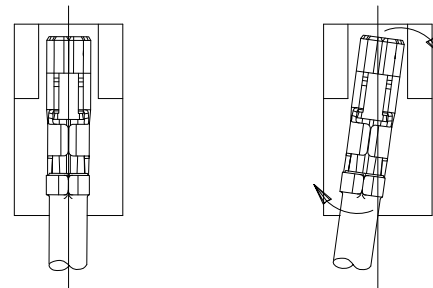

Figure 2
- a. Grasp the contact directly behind the insulation barrel, and align the contact with contact cavity from the wire end of the receptacle housing so that the locking lance is aligned with the locking ramp. See Figure 2, Detail A. Make sure that the contact is perpendicular (not at an angle) to the contact cavity. See Figure 2, Detail B.
- b. Push the contact straight, and not rotated, into the contact cavity. If it is rotated, damage to the contact will occur or the contact will not latch properly onto the locking ramp. See Figure 2, Detail B. Do not force the contact into the receptacle housing.
c. Ensure that the contact locking lance latches onto the locking ramp. The locking lance can be viewed through the window of the locking ramp. See Figure 2, Detail A.